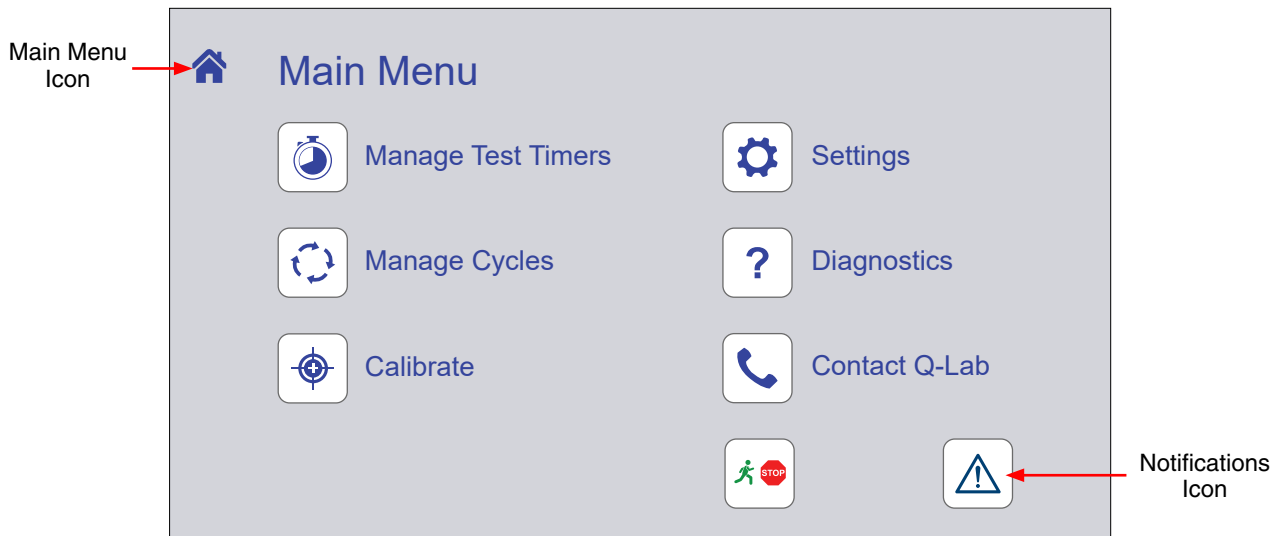

Figure 8.4: QCT Main Menu Display
- The Main Menu Display (Figure 8.4) provides access to all other operator controls for the tester.